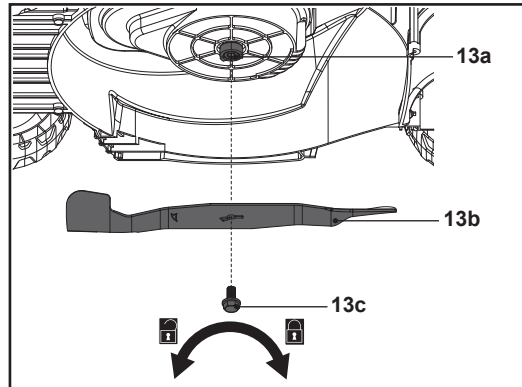

Fig. 16
1. Keep the underbody and cutting blade (13b) clean and free of debris. Remove clippings from the rear discharge chute (18).
5. Replace the cutting blade (13b) with a new one of the same type. Check the status of blade holder (13a) onto the spindle firstly, then attach the cutting blade (13b) to the blade holder (13a) by aligning it with the patterns on the blade holder (13a), fit the hex bolt with washers (13c) properly to secure the connection. Tighten the hex bolt (13c) clockwise with 25 Nm min, 30 Nm max. to ensure safe operation of your product (Fig. 16).